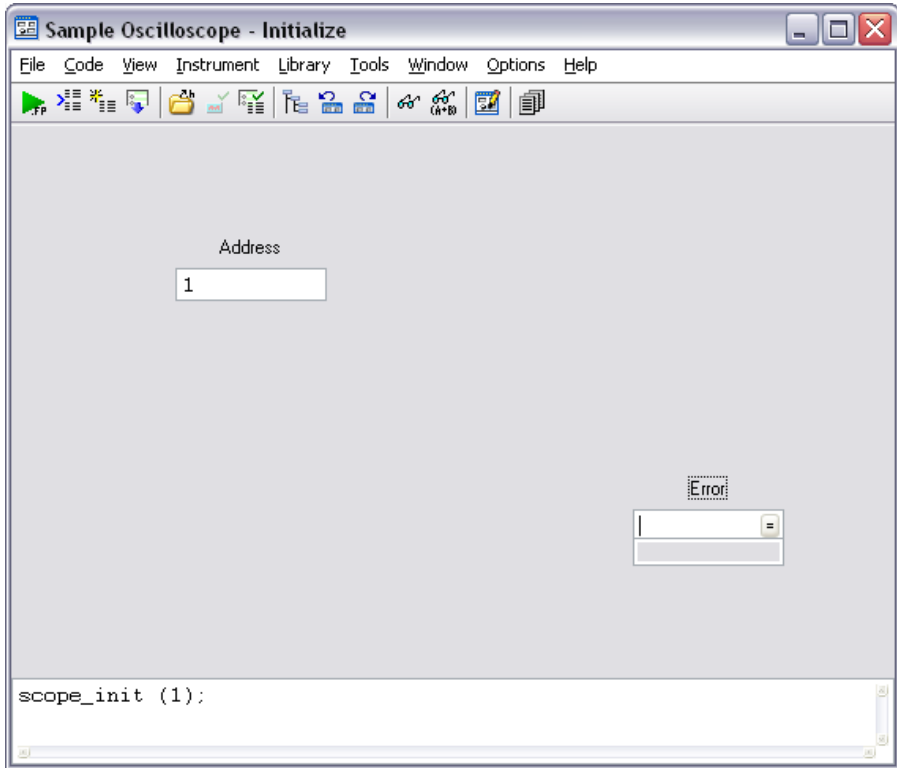

Figure 3-4. Initialize Function Panel
2. Double-click **scope_init** to open the Initialize function panel, as shown in Figure 3-4.